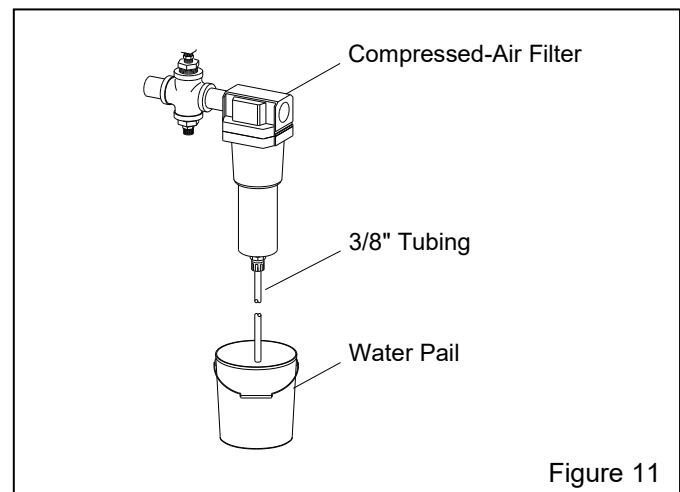

Figure 11
2.14.1 Insert a short length of 3/8" tubing into the automatic drain at the bottom of the compressed-air filter, as shown in Figure 11, and place the other end into a pail. When the filter automatically drains, the water will drain into the pail.